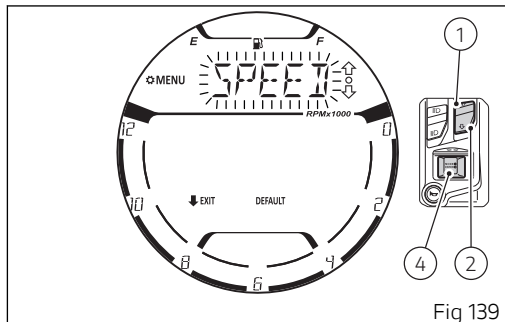
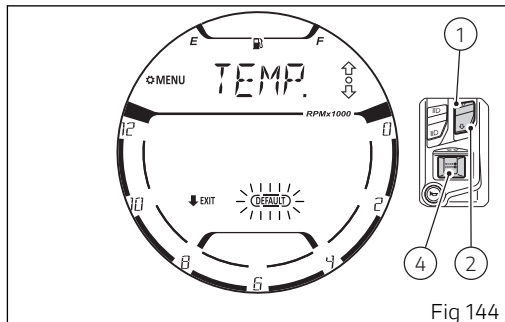

Fig 139
Fig 144
When entering this function, the instrument panel shows as first value the speed/travelled distance "SPEED" (Fig 139).
Each time button (1) or button (2) is pressed the instrument panel displays, flashing and in sequence, the "TEMP." setting (Fig 142) and the frame of the "DEFAULT" indication (Fig 144). Afterwards, the "SPEED" indication (Fig 139) will start flashing again.
It is possible to restore the units of measurement of all indications displayed on the instrument panel. Use buttons (1) and (2) to select "DEFAULT" with flashing frame (Fig 144) and press button (4).